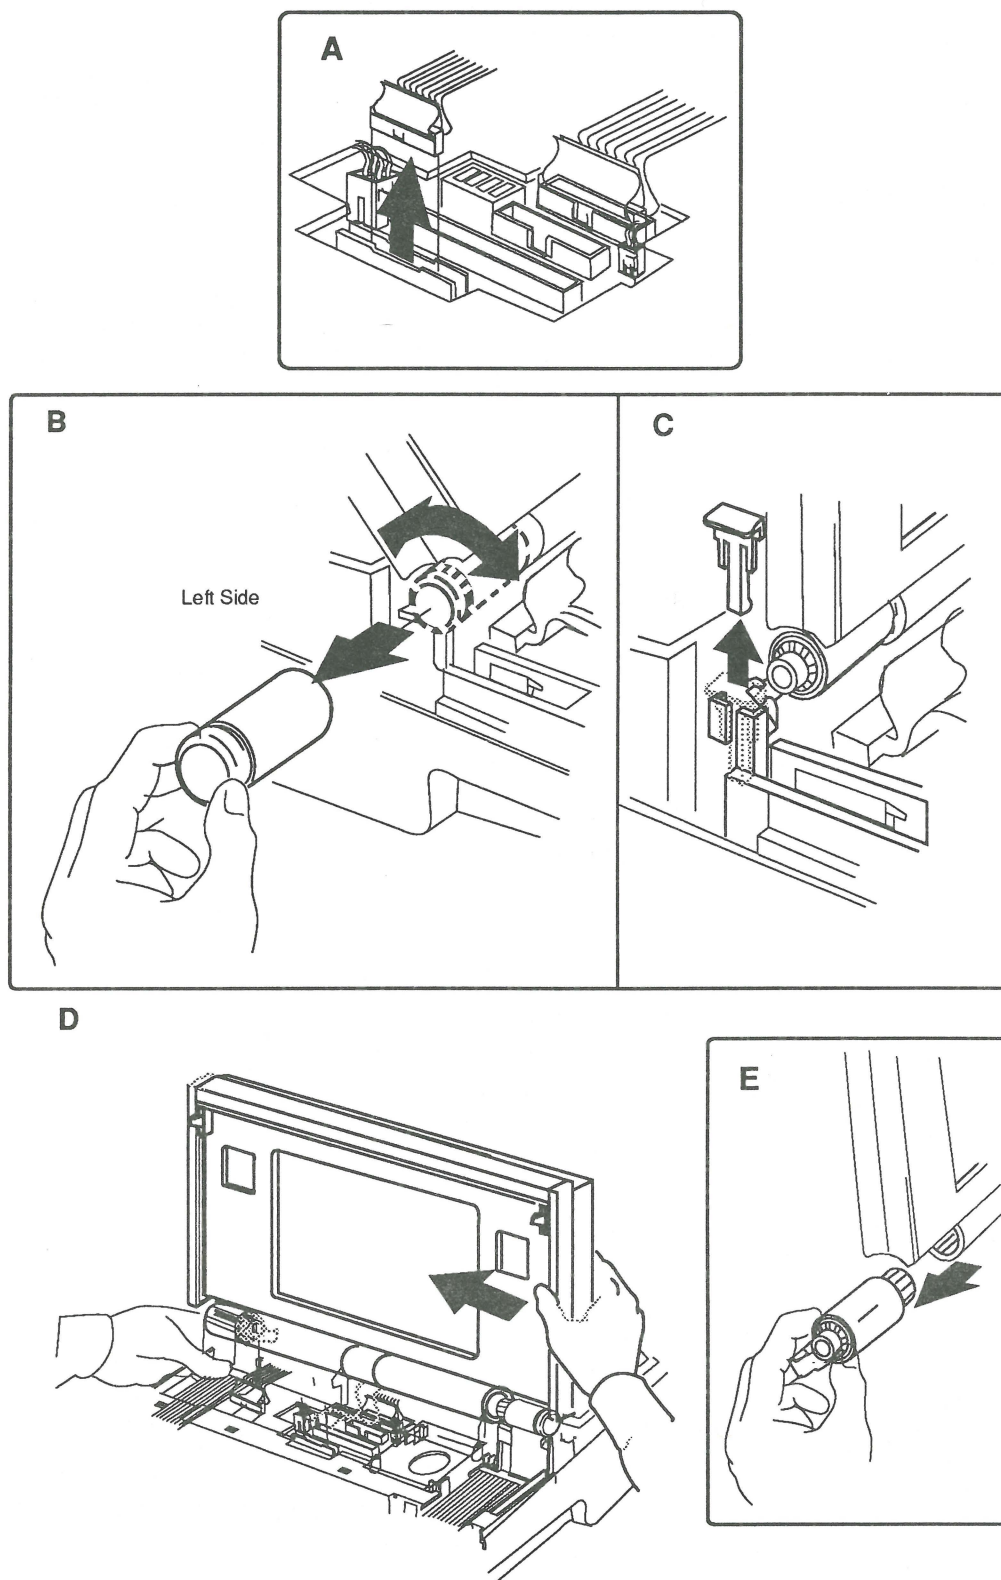

FIGURE 11
2. **Figure 11-A.** Disconnect the display cable from logic board connector J19.
3. **Figure 11-B.** Remove the left clutch cover by simultaneously gently twisting the cover back and forth and pulling the cover away from the display.
4. **Figure 11-C.** Lift up and remove the left clutch retainer.
5. **Figure 11-D.** Place your hands on either side of the display assembly. Push the display assembly to the left with your right hand while maintaining a slight pressure on the display with your left.
6. **Figure 11-E.** Remove the left clutch mechanism from the display.